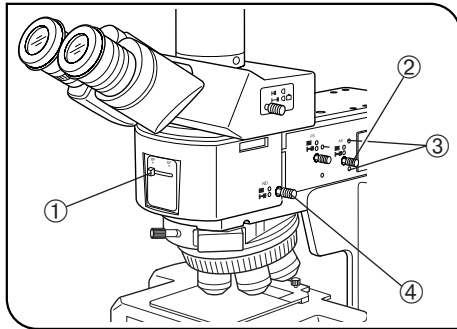

Fig. 3
(Fig. 3)
1. Loosen the screw interlocking the ND filter by inserting the Allen screwdriver into the hole ② on the left side of the reflected light illuminator.
2. Now the interlocking is released and the ND filter knob (Fig. 3 ④) is active. Pull the knob out to disengage the ND filter from the light path.